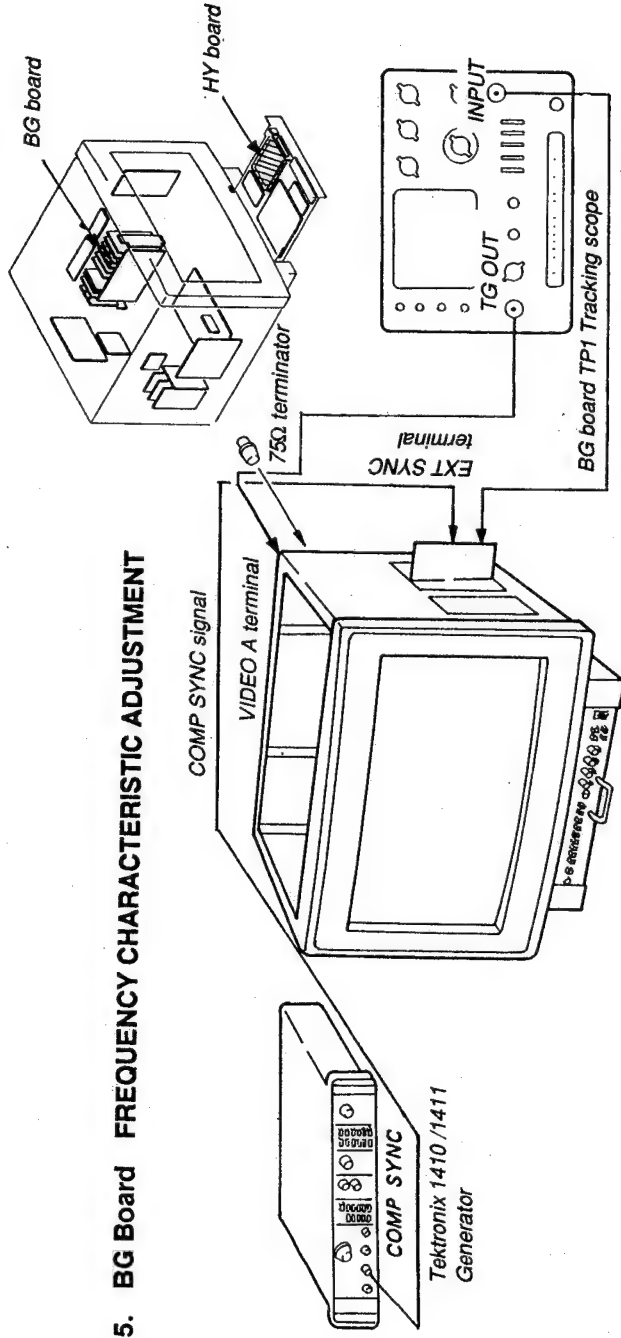

Fig. 5-1.
- Complete the connection as shown in Fig. 5-1.